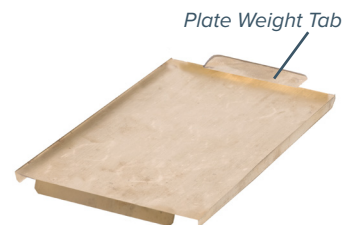
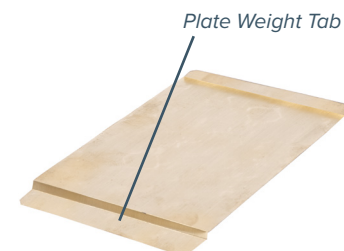

Figure 2. Normal plate weight
Figure 3. Recessed Plate Weight
**Note:** Some sealing material may curl when heated and the foil brass weight will be required to keep the seal flat before sealing and to prevent the plate from sticking to the heater block. Two types of foil weights are supplied with each Genoseal; one for normal plates (*Figure 2*), and one for plates with high rims and recessed wells (*Figure 3*).
**Note:** Care **MUST** be taken when removing the foil loading tool, **IT WILL BE HOT**. Always hold it by the specified tab as shown in Figures 2 and 3.